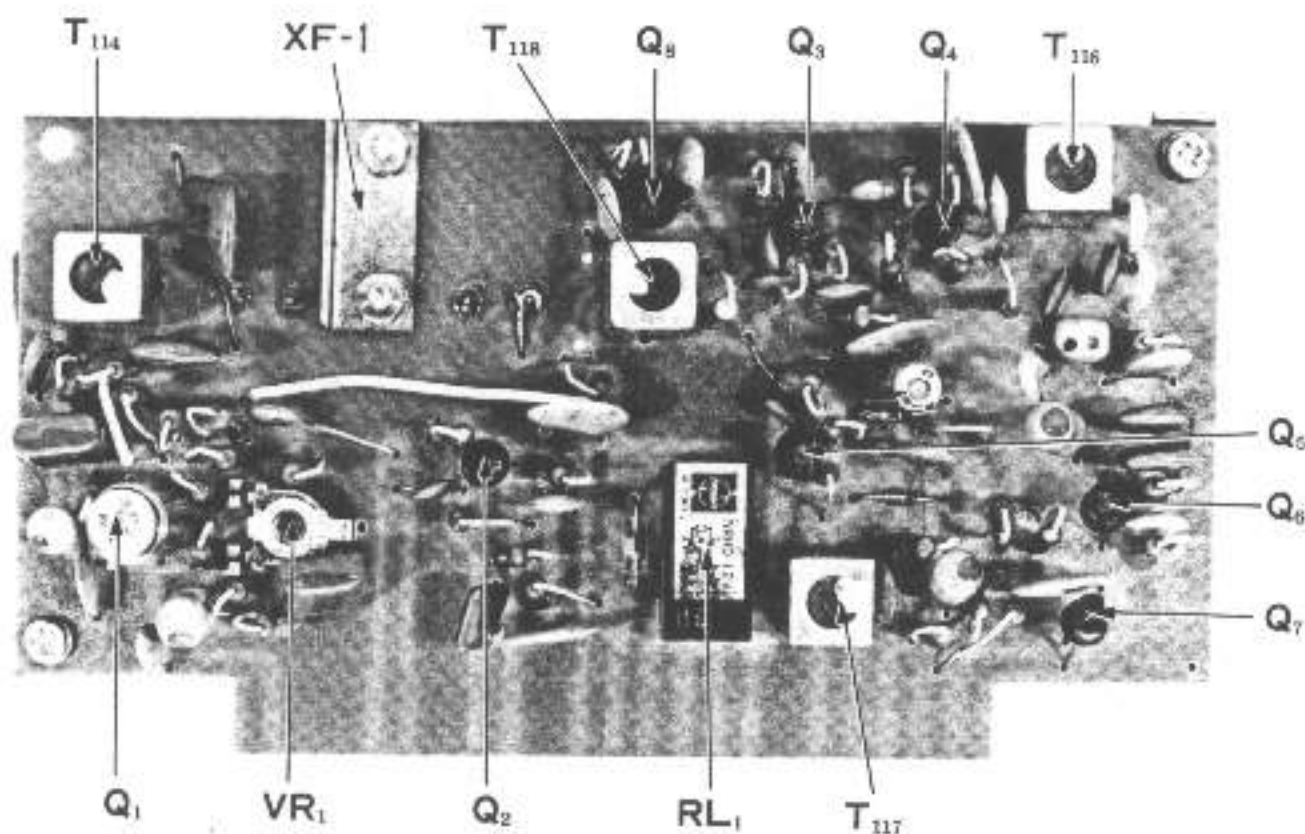

Fig. 14 NB-MIX UNIT
(2) T116
Connect the plus lead of VTVM to test point marked TP in Figure 14 and the minus lead to ground. Set the AGC switch to the OFF position and tune the FR-101 as above Step (1). Peak T116 for maximum VTVM reading.
(3) VR1